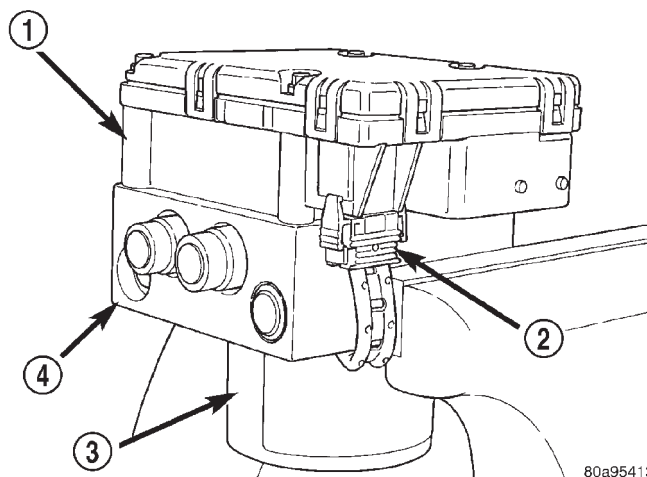

Fig. 50 Pump/Motor To CAB Wiring Harness
(1) Remove the ICU from the vehicle. Refer INTEGRATED CONTROL UNIT in the REMOVAL AND INSTALLATION section in this section of the service manual.
(2) Disconnect the pump/motor wiring harness (Fig. 50) from the CAB.
(3) Plug the pump/motor wiring harness into the CAB (Fig. 50).
(4) Install the ICU in the vehicle.
(5) Bleed the base and ABS hydraulic systems. Refer to ANTILOCK BRAKE SYSTEM BLEEDING in this section of this service manual group.